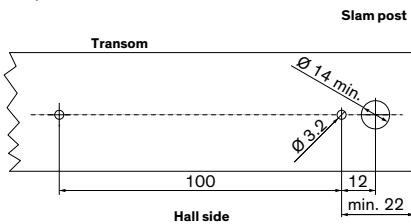

Figure 19: Drilling template
1. Drill two 3.2 mm (1/8 inch) holes for the mounting box with 100 mm distance into the transom. Drill a 14 mm (0.55 inch) hole into the transom for the sensor cable (Figure 19).